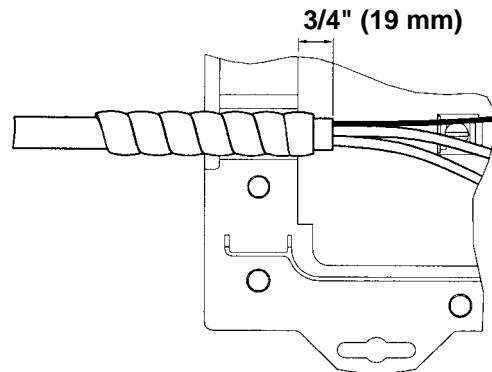

FIGURE 9 - POSITION DIELECTRIC CABLES
6.04 For dielectric cables, position the cable so that the sheath will extend about 3/4" (19 mm) into the closure. (Figure 9)